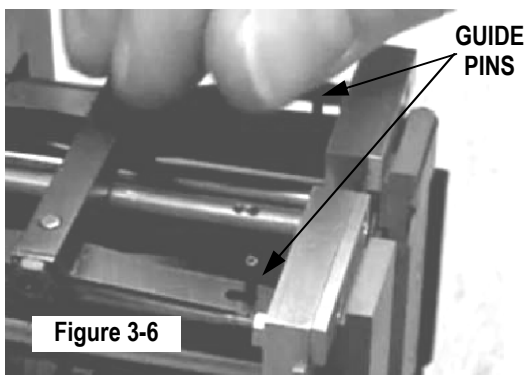

Figure 3-6
1. Remove the safety cover. This is done by loosening (2) knurled screws on each side of the cover and then sliding the cover forward, up and off the machine.
2. Push back the guide pin on the swing lever that is located behind each blade holder, (one side at a time) and pull out the blade from the side. See Figure 3.6.